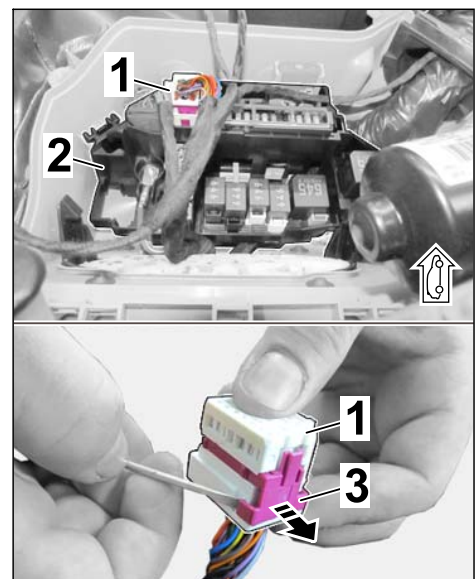

Figure 29
2.5.4 Remove and release connector (17-pin, white) from fuse/relay carrier (E-box, connection point X372.1A1) (⇒ *Figure 29*).
- 3 (2)** – Secondary lock